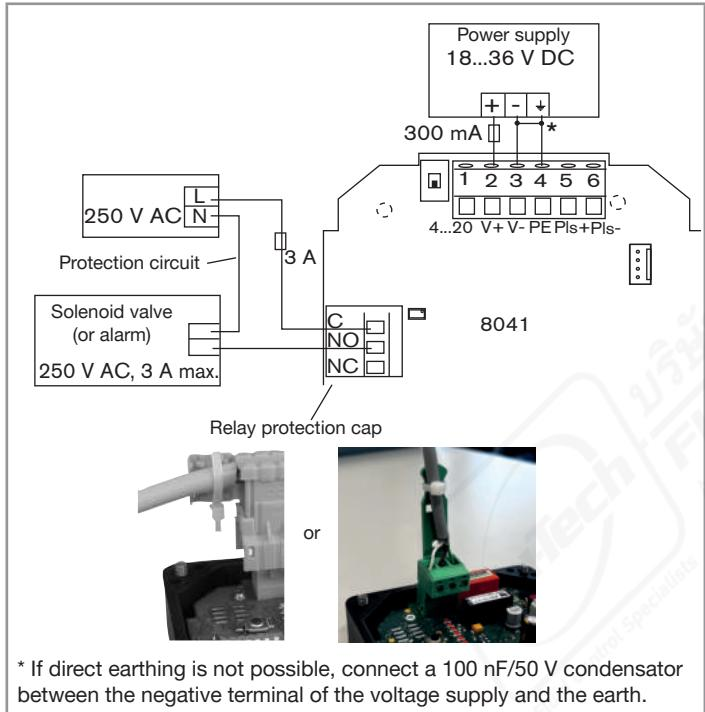
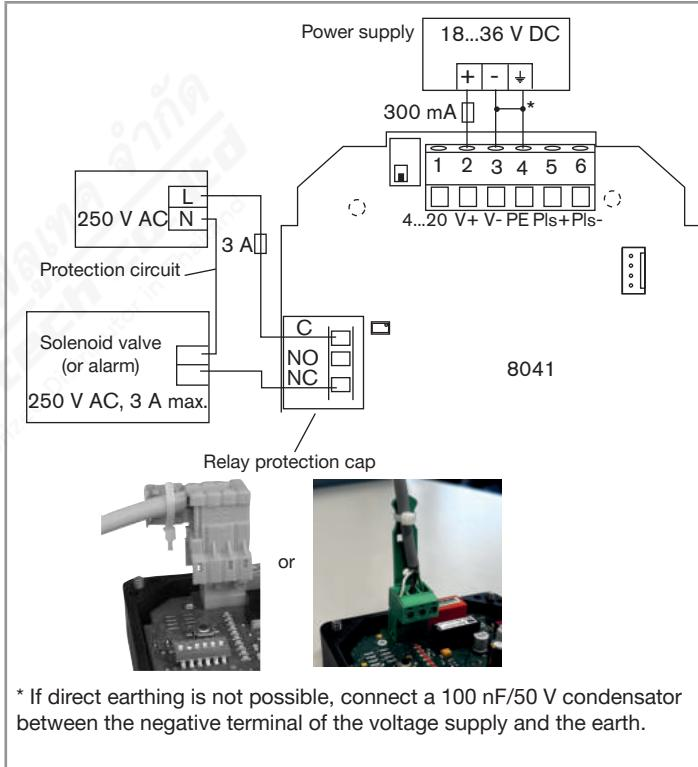

Fig. 23: Connection of the relay output for a normally open operating
Fig. 24: Connection of the relay output for a normally closed operating
- Wire the relay output to operate in normally open mode (see Fig. 23) or in normally closed mode (see Fig. 24).
- Earth the device (see Fig. 23 or Fig. 24).